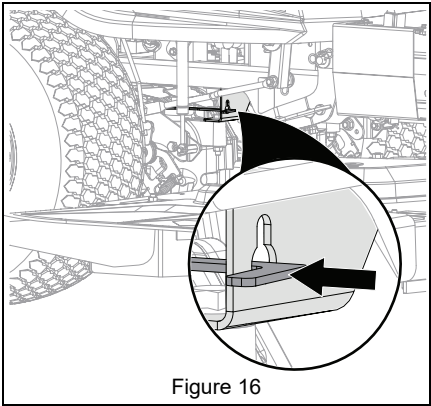

Figure 16
5. Return transaxle bypass levers to operating position. See Figure 16.